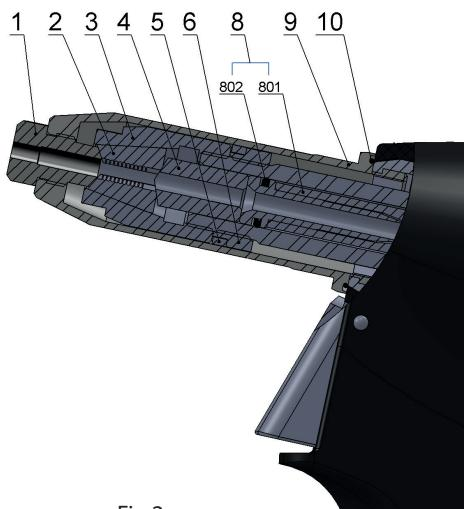
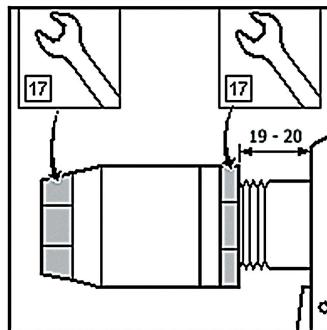

Fig.2
Fig.3
Disconnect the tool from the source of compressed air, unscrew the front nozzle /fig.2 - pos.9/ by means of a spanner no.23, set the spanner no.17(15) onto the clamping sleeve /fig.2 - pos.3/, set the spanner no.17 on the backnut /fig.2 - pos.6/ and loosen. Unscrew the clamping sleeve, replace the jaws /fig.2 - pos.2/ and conduit-suction complet /fig.2 - pos.8/. All used threads are clockwise. Clean the dismounted parts thoroughly and check them visually, especially the following:
- 1) Jaws /fig.2 – pos.2/ - if worn or damaged, replace it, if dirty, clean it with a wire brush.
- 2) Nose-piece /fig.2 – pos.1/ - for wear of functional surfaces of the taper.
- 3) Jaw pusher /fig.2 – pos.4/ - for wear of functional surface of the taper.
- 4) Conduit-suction complet /fig.2 - pos.8/ - inspect parts of the assembly, O - ring /fig.2 - pos.802/ and conduit-suction /fig.2 - pos.801/ - if damaged or worn, replace it with a new one.
- 5) Front nozzle /fig.2 - pos.9/ - check for damage of the internal surface ($\varnothing 20$).
- 6) Scraper ring /fig.2 - pos.5/ - if damaged or worn, replace it with a new one.
Mount the parts (see par. disassembly) in a reverse order. On the outer surface of the jaws /fig.2 – pos.2/ apply a drop of lubricating oil (we recommend hydraulic oil HYSPIN AWHM 32 CASTROL), apply thin layer of plastic lubricant MOGUL LV 2-3 to the conduit-suction complet /fig.2 – pos.8/. Basic set-up of the jaws is performed as in fig. 3.